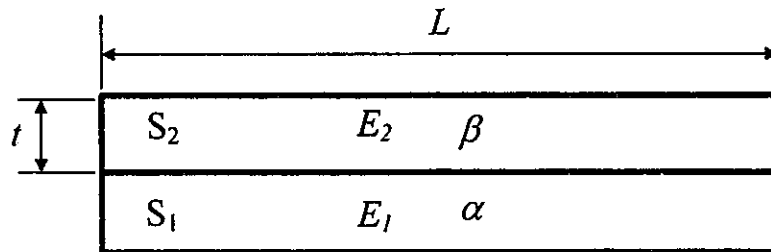

Fig.3 Bi-sheet
3. Two sheets  $S_1$  and  $S_2$  have the same size  $L \times W \times t$ , Young's Modulus of  $S_1$  is  $E_1=E$ , Young's Modulus of  $S_2$  is  $E_2=2E$ , different thermal expansion coefficients  $\alpha$  and  $\beta=1.2\alpha$ , as shown in Fig.3. They are firmly attached together.